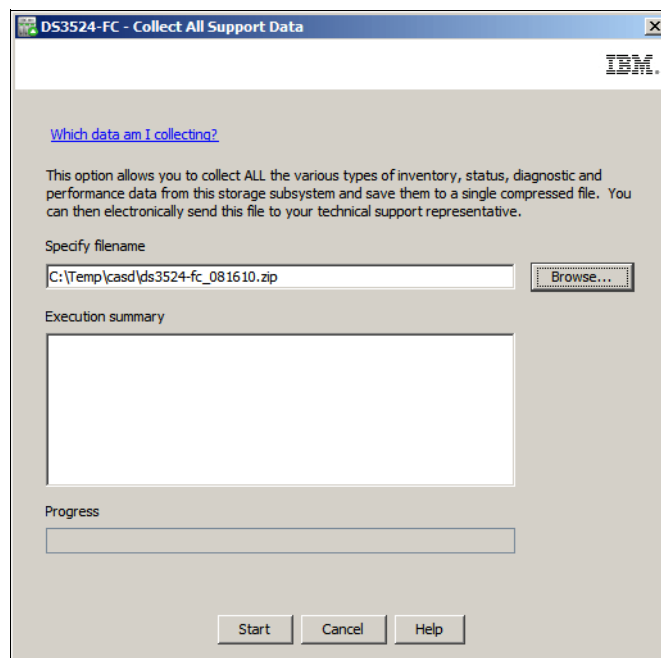

Figure 14-4 Collect All Support Data - specify the filename and folder location
1. Open the Collect All Support Data window and click the **Browse** button to specify the file name and folder location where the wizard will save the collected support data as shown in Figure 14-4.